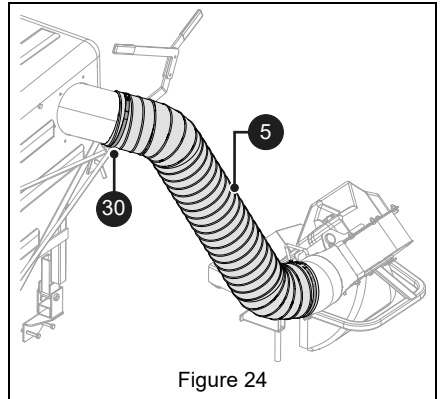

Figure 24
- Place mower deck in lowest position. See Figure 24.
- Install hose clamps (item 30) on each end of the hose.
- Install one end of hose (item 5) onto hose adapter.